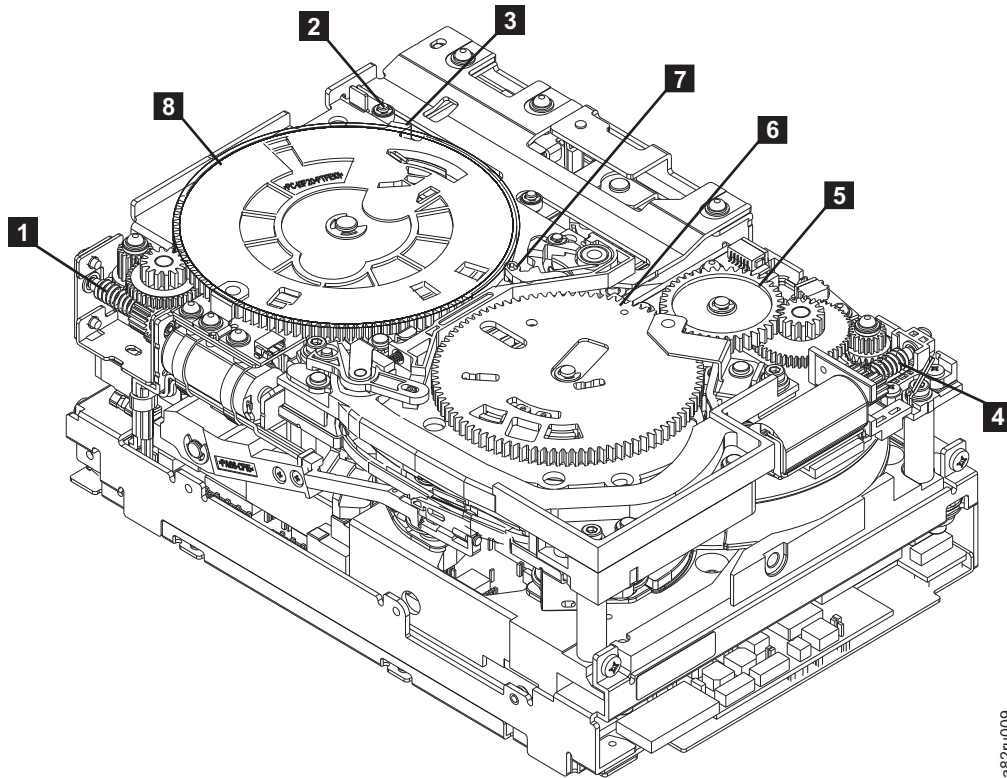
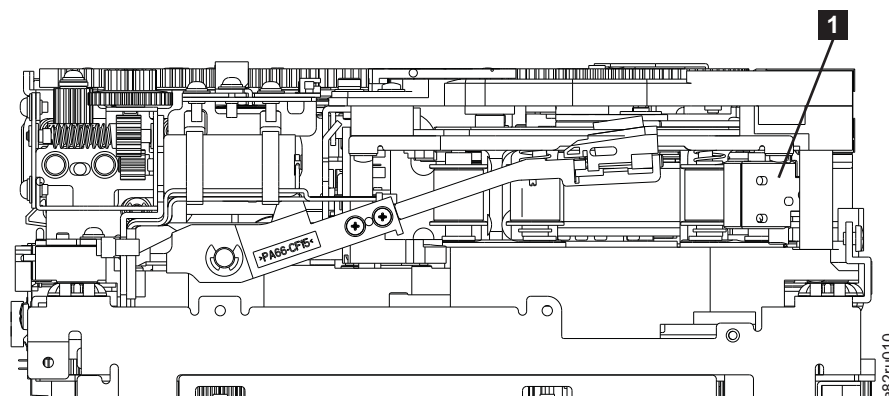

Figure 209. Drive with cover removed to reveal gear train.
Figure 210. Leader Block Assembly (LBA)
6. Locate the threader motor worm gear (**4** in Figure 209) on the rear of the drive. Use your finger to rotate the threader motor worm gear and slowly rotate the threader mechanism gear (**6** in Figure 209) clockwise. This action rotates the threader motor worm gear (**4** in Figure 209) clockwise, drawing the LBA into the cartridge.
7. As the tape leader block assembly (LBA) is secured in the cartridge, you hear the LBA retention spring clips click into place. If you do not hear the click, continue rolling until the threader motor worm gear (**4** in Figure 209) stops. The LBA is in the correct position.
- a. Loader mechanism gear (**6** in Figure 209) nearest the front of the drive that actuates the cartridge loader mechanism.
- b. Position of the rotate stub (**3** in Figure 209).
- c. Front loader motor worm gear (**1** in Figure 209). Rotating this gear allows the loader mechanism gear (**8** in Figure 209) to turn.
9. Rotate the loader motor worm gear (**1** in Figure 209 on page 268) to turn the threader mechanism gear (**6** in Figure 209 on page 268) counterclockwise. Continue turning until the rotator stub (**3** in Figure 209 on page 268) loses contact with the lever (**7** in Figure 209 on page 268). This action releases the LBA leader pin.
10. Rotate the threader motor worm gear (**4** in Figure 209 on page 268) to turn the threader mechanism gear (**6** in Figure 209 on page 268) counterclockwise. This action moves the LBA out of the cartridge and past the read/write head. Stop this rotation when the LBA is near the tape guide roller nearest the rear of the drive that is shown as **1** Figure 210.
11. Continue rotating the loader motor worm gear (**1** in Figure 209 on page 268) until the rotator stub (**3** in Figure 209 on page 268) is positioned as shown. Notice that the rotator stub (**3** in Figure 209 on page 268) is nearly aligned with the cartridge loader tray guide bearing (**2** in Figure 209 on page 268).